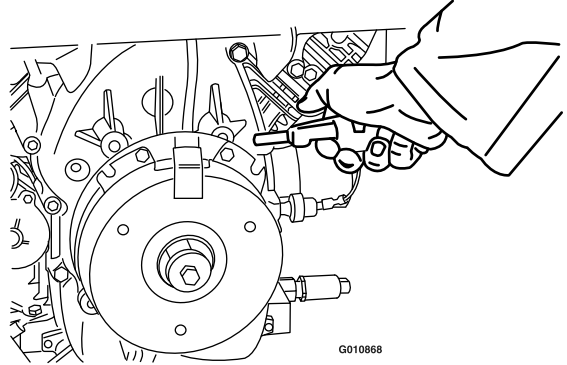

Figure 70
2. Using an air compressor, blow out any debris from under the brake pole and around the brake spacers (Figure 70).